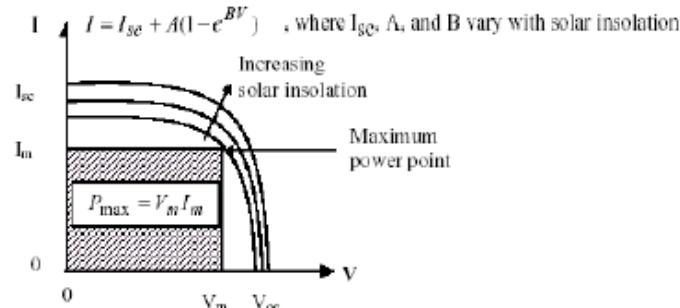

Figure 6. I-V Characteristics of a Solar Panel
The I-V characteristics of a solar panel are nonlinear and follow the general shape and equation shown in Figure 6. The current is maximum for the short circuit condition (i.e., $V = 0$), and the voltage is maximum for the open circuit condition (i.e., $I = 0$). Maximum power, P_{max} , corresponds to V_m and I_m .
- V_{oc} per cell (refer to figure 6): 0.5-0.6V
- A 12V-battery-charging panel has (refer to figure 6): ≈ 36 cells, a total $V_{oc} \approx 19\text{ V}$, a $V_m \approx 14\text{ V}$